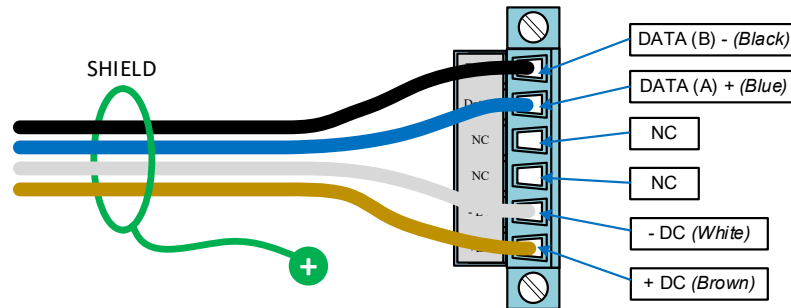

Figure 12: GRIDSCAN 5000 Hydrogen Sensor Connector with Wires
In the example shown in *Figure 12: GRIDSCAN 5000 Hydrogen Sensor Connector with Wires*, the Black wire is connected to DATA (B) -, the Blue wire is connected to DATA (A) +, the White wire is connected to - DC, and the Brown wire is connected to + DC.